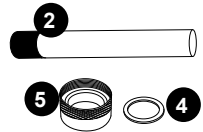

FIGURE 7
5. Remove the quartz seal compression nut (5) by turning it
counterclockwise, Figure 5. Use a pair of channel-lock pliers if needed, Figure 6. You will notice that there is a stainless steel compression washer (4) which slides over the quartz tube, save the washer (4) for later use, Figure 7.
6. Now you are ready to clean or replace the quartz tube (2). For cleaning the quartz tube (2), follow steps 7 and 8 then proceed from step 9. For replacing quartz tube (2), skip